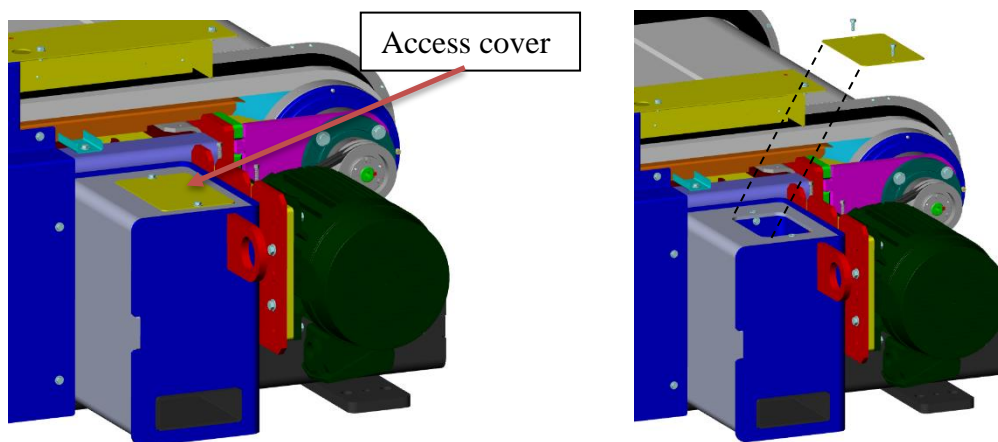

Figure 8
4. Removal of drive motor: remove the two 3/8-16 hex head bolts that secure the motor mount access cover and remove cover. See **Figure 8**.